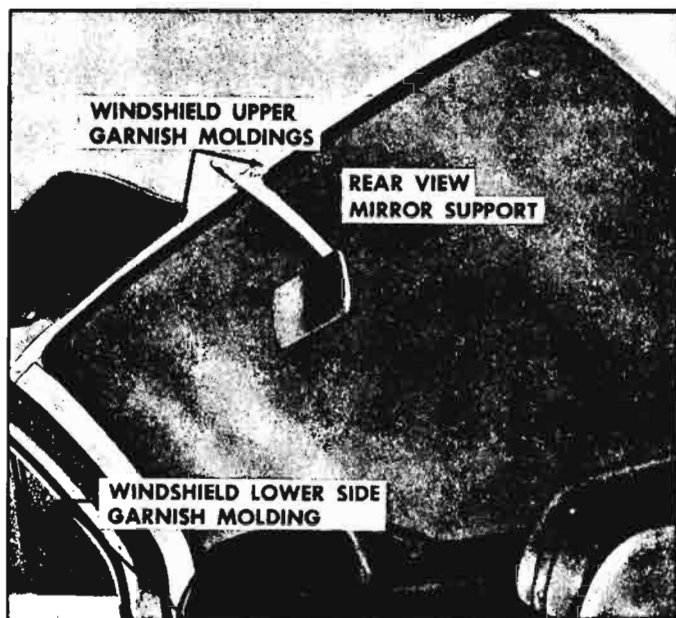

Fig. 10-29—Windshield Garnish Mouldings
1. Remove screws securing mirror support and remove support (fig. 10-29).
Refer to Figure 10-29.